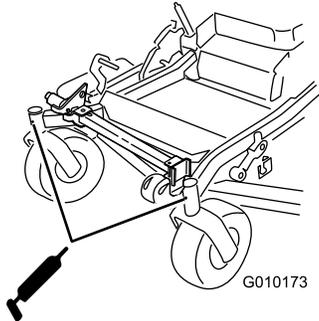

Figure 46
9. Remove the grease fitting from the hole. Install the hex plug and dust cap (Figure 46).